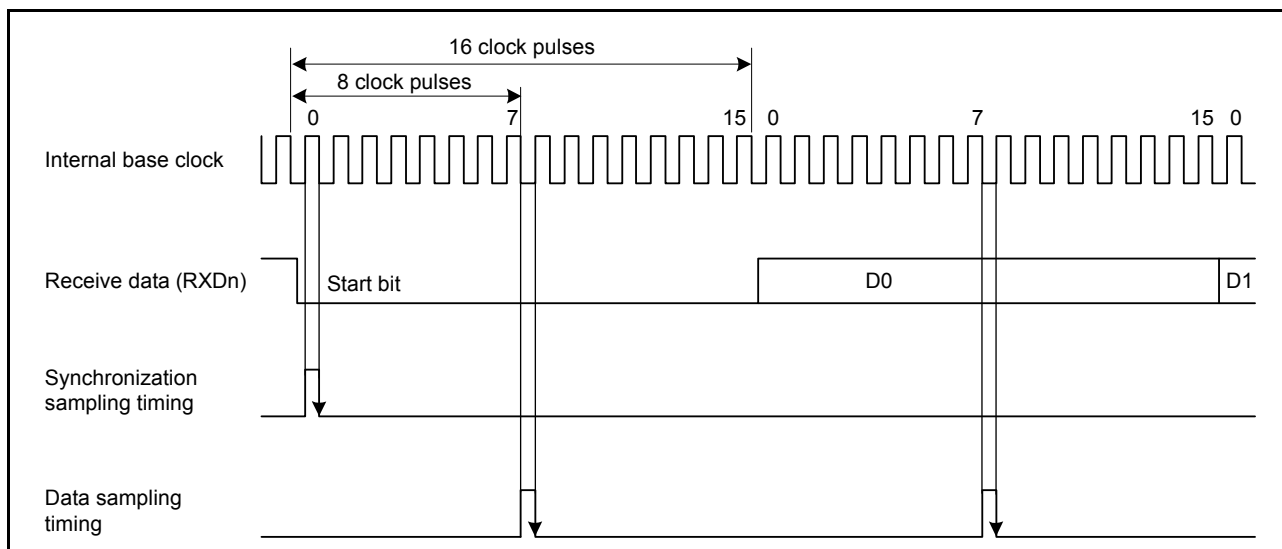

Figure 25.3 Receive data sampling timing in asynchronous mode
Because receive data is sampled on the rising edge of the 8th pulse*1 of the base clock, data is latched at the middle of each bit, as shown in Figure 25.3. The reception margin in asynchronous mode is determined by the following formula (1):